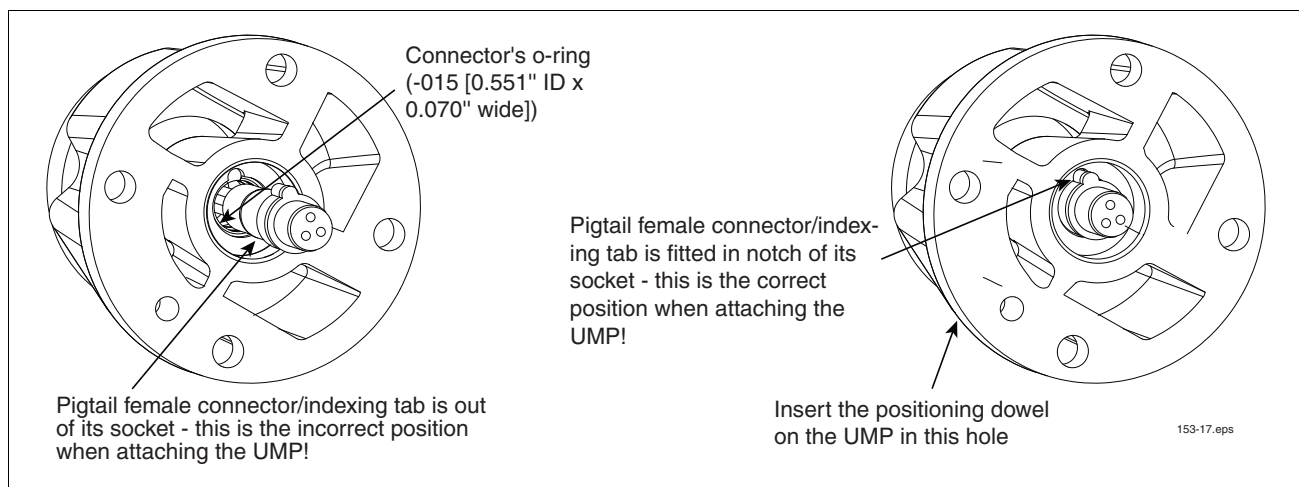

Figure 8. Verifying Pigtail's Female Connector Is Seated Properly
4. Align the UMP positioning dowel and boss with the proper holes in the discharge head and push the UMP into position using hand force only (see Figure 8). The UMP should be snug against the discharge head prior to installing the UMP retaining bolts.